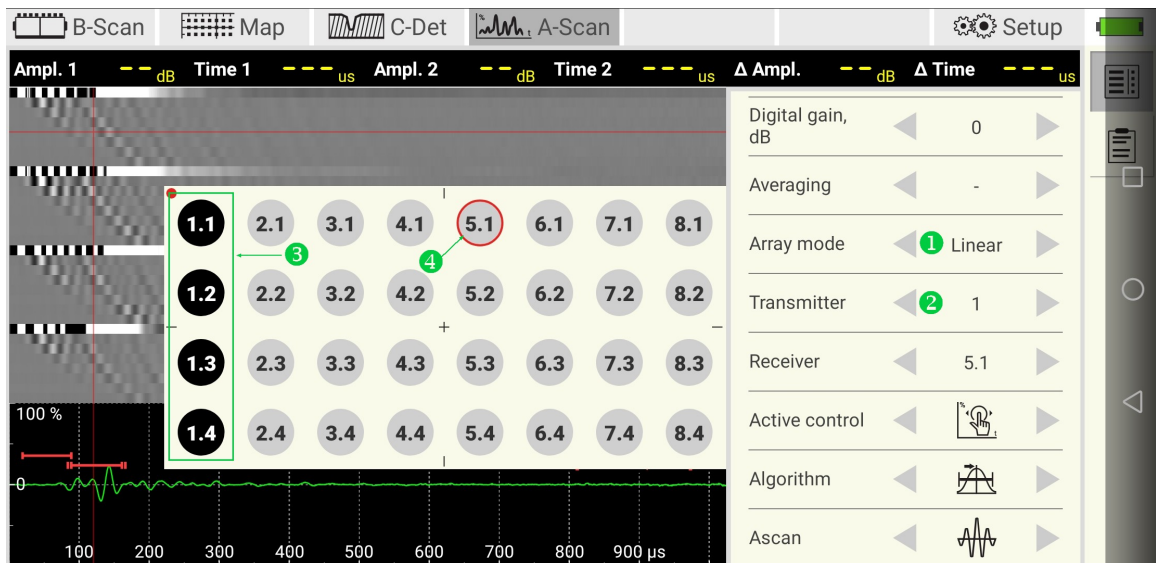

Figure 10: Selecting the group of transmitters
In the linear array mode ①, the operator can select a group of four transmitting transducers. Tap on the transmitter control ②. Select the group (or column) of transmitters in the rising dialog. Transmitters become black ③. The receiver ④ has a red border (Figure 10).